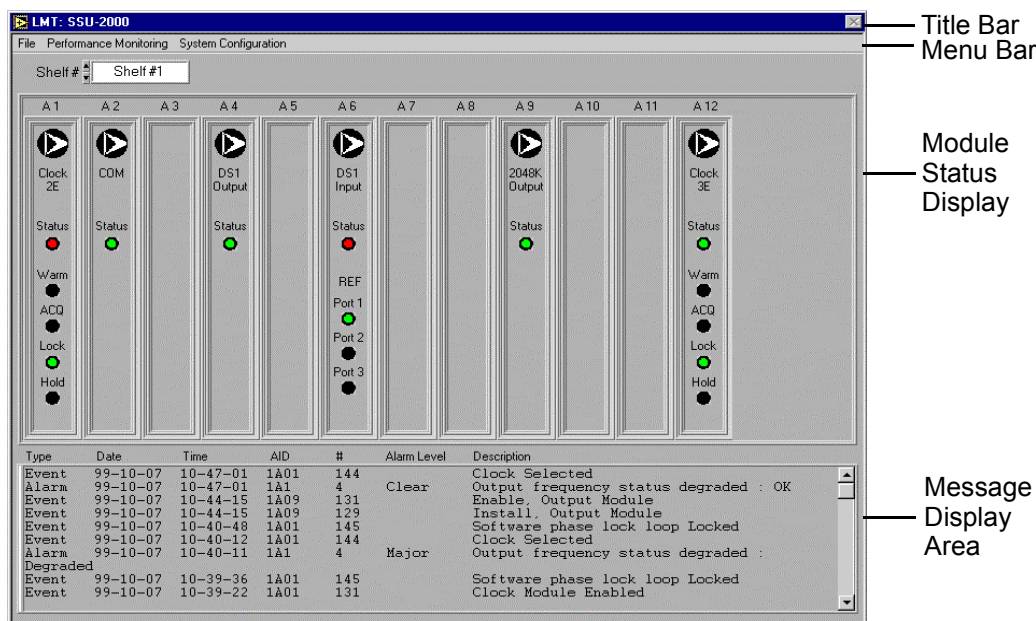

Figure 4-7. LMT:SSU-2000 Window (Shelf #1: main shelf)
When you start the LMT software, the **LMT:SSU-2000** window displays the standard Windows components listed below. Figure 4-7 shows an example of the window.
- **LMT:SSU-2000 Window Display Area** — The display area of the window shown in Figure 4-7 contains the *module status display* and *message display* portions of the window.